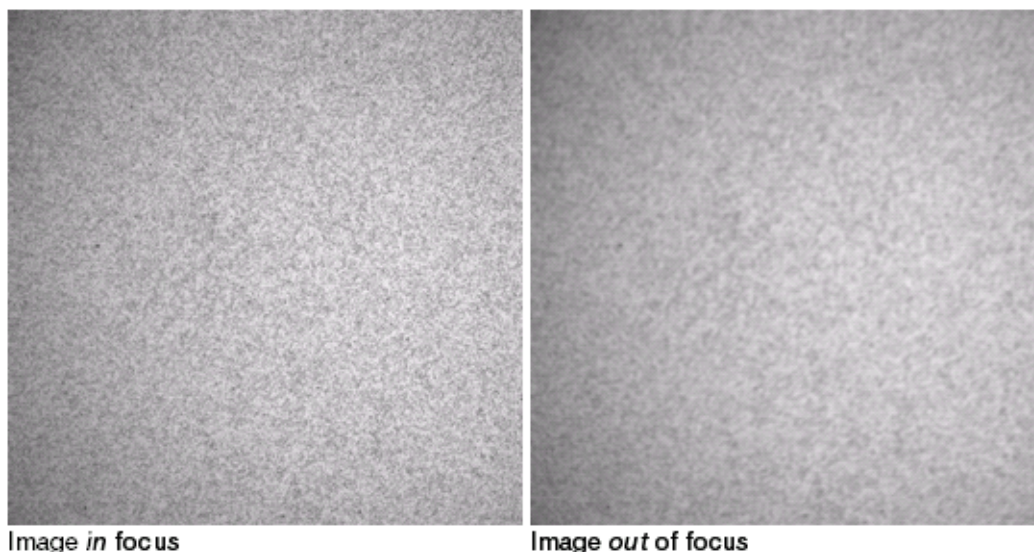

Figure 83 Examine the image on the screen.
3. When the Imager displays READY, click the **Acquire** button, then examine the image on the screen (see Figure 83).